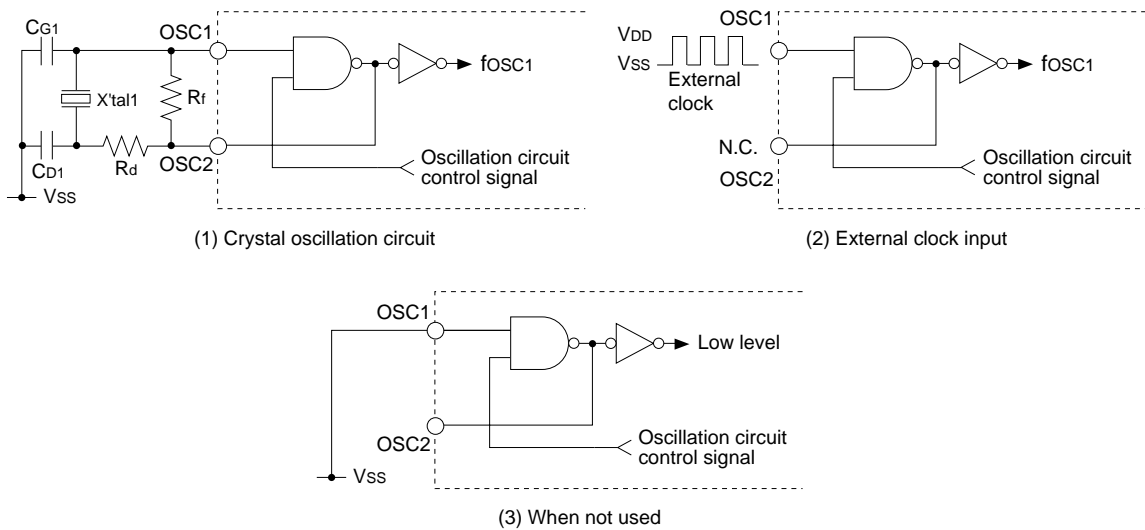

Figure III.7.2 Low-Speed (OSC1) Oscillation Circuit
Figure III.7.2 shows the structure of the low-speed (OSC1) oscillation circuit.
When using a crystal oscillation for this circuit, connect a crystal resonator X'tal1 (32.768 kHz, Typ.), a feedback resistor (Rf), two capacitors (CG1, CD1), and a drain resistor (Rd), if necessary, to the OSC1 and OSC2 pins and VSS as shown in Figure III.7.2 (1).